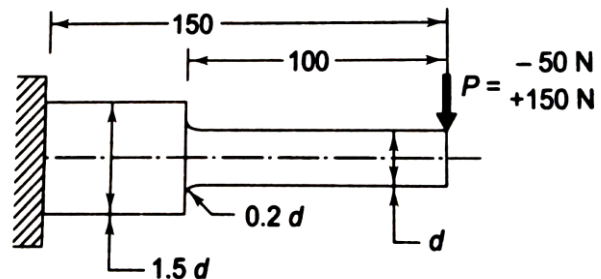

Figure 2
- (c) A cantilever beam made of cold drawn steel 40C8 ($S_{ult}=600 \text{ N/mm}^2$ & $S_{yt}=380 \text{ N/mm}^2$) is shown in **figure 2**. The force P acting at the free end varies from -50 N to + 150 N. The expected reliability is 90% and the factor of safety is 2. The size factor is 0.85. The notch sensitivity factor at the fillet is 0.9. Determine the diameter 'd' of the beam at the fillet cross-section using modified Goodman diagram as failure criterion. **07**